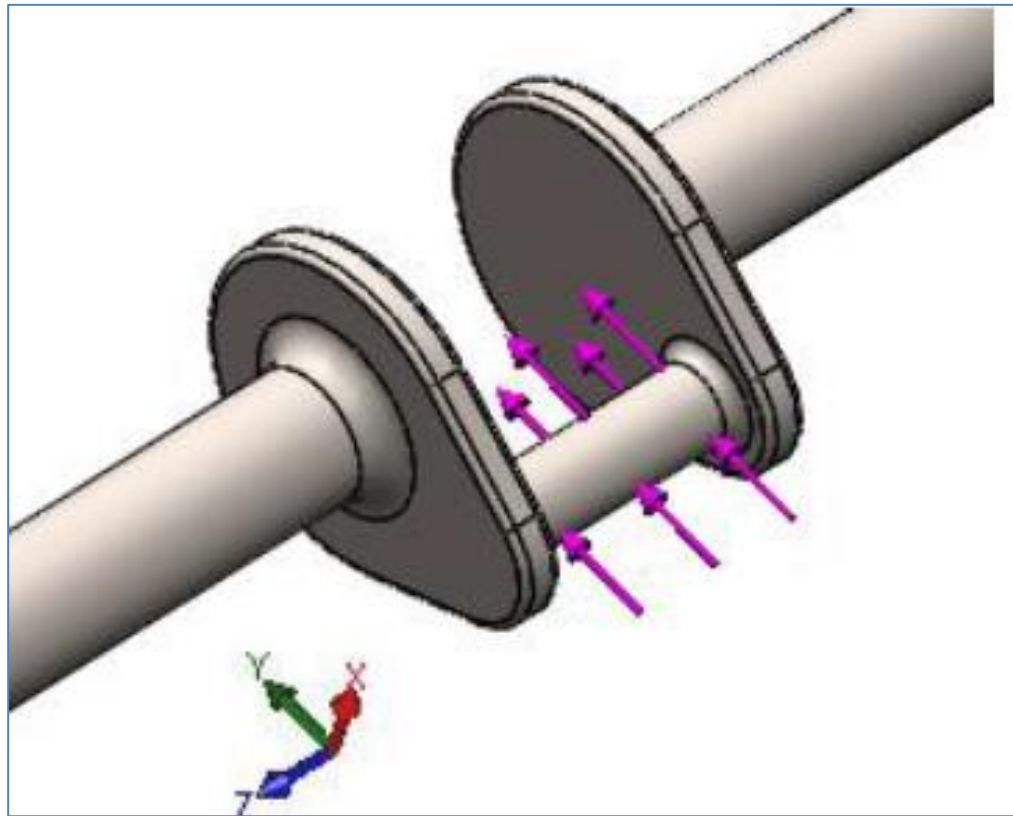

Figure 1: Applied force on crankshaft as shown by SolidProfessor.
- (a) Correct the applied load shown in Fig. 1. *What did SolidProfessor do wrong?*
- A picture with the corrected applied load (zoom in and show it similar to Fig. 1)